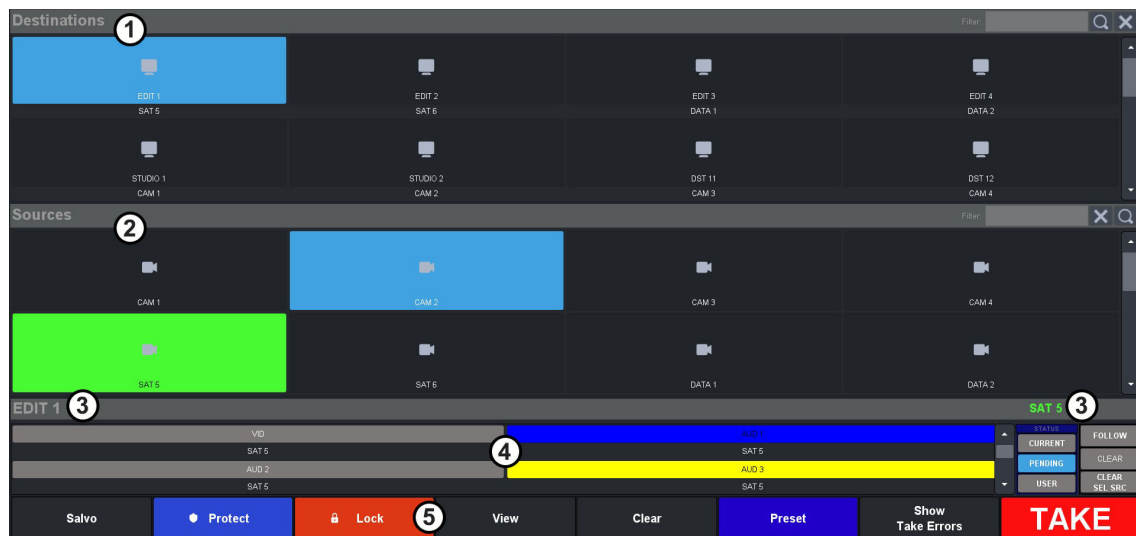

Figure 62 Example of the Default Push Button Soft Panel — Landscape
Figure 62 is an example of a Push Button soft panel set to landscape.
- Landscape — a vertical layout; the soft panel is wider than it is tall. (**Figure 62**)